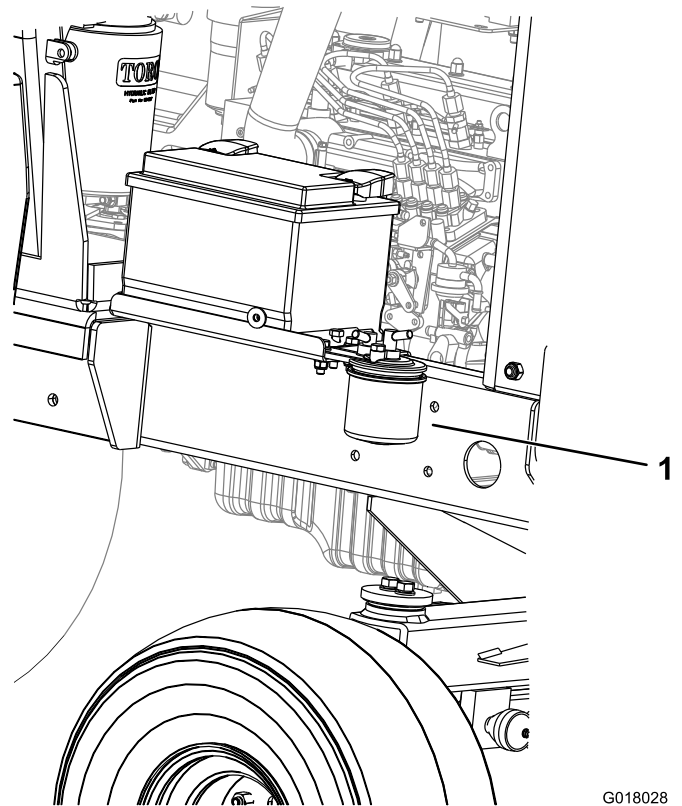

Figure 38
1. Place a clean container under the fuel filter canister (Figure 38).